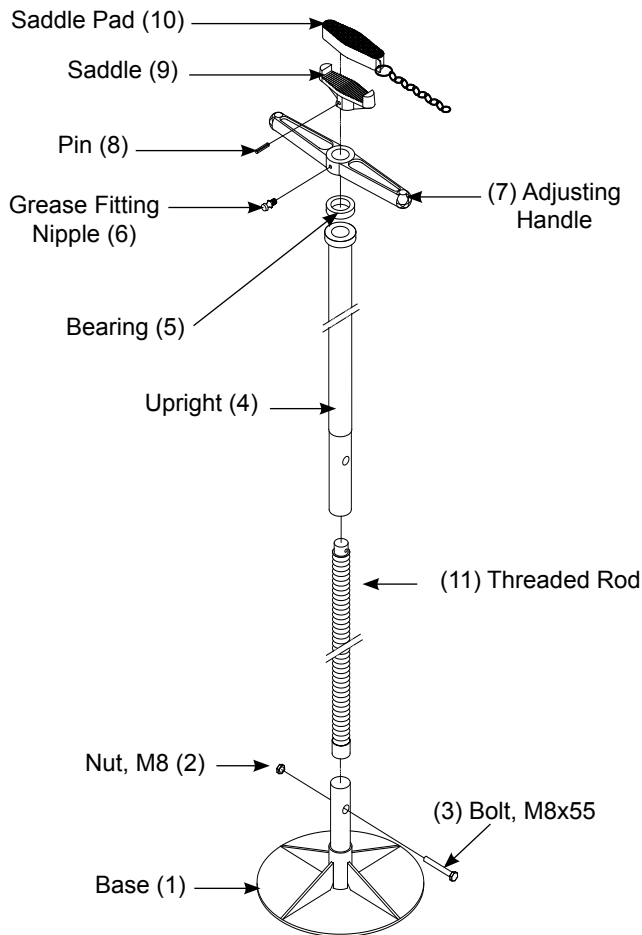

Figure 1 - 31500 Nomenclature
1. Make sure all parts are present (see Fig. 1 & 2). If any parts is missing or damage, do not attempt to assemble, install or operate the product. Contact Customer service.
2. Begin assembly by inserting smaller end of threaded rod (11) through the bottom of upright (4), allowing small end of threaded rod to project out of the top of upright.
3. Place bearing (5) over the threaded portion, then spin the adjusting handle (7) clockwise onto the threaded rod.
4. Saddle (9) can now be fastened by inserting the pin (8) through saddle & threaded rod (11).
5. a. For Model 31500 (see Fig. 1):